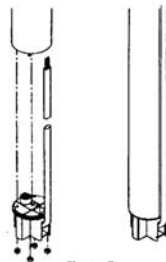

Figure 7
4. Press the cable plug into the motor socket. The plug will only fit one way, see Figure 7.
5. Install and tighten the four nuts, see Figure 7. When the plug has been installed, there must not be a clearance between the motor and the cable plug.